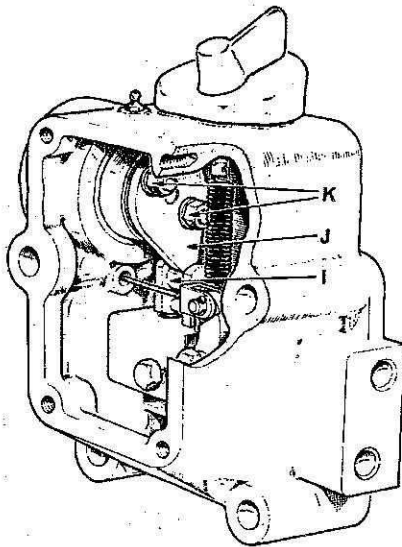

Fig. 187—Adjusting rocker shaft cam; refer to text for adjustment procedure and specifications.
With tractor and hydraulic system assembled, but with cover plate removed from right rockshaft support bracket, lift linkage by hand and engage locking latch to hold the linkage in raised position. Then, refer to Fig. 187 and check to see that push rod roller (I) is seated in cam indentation (J). If cam is not in this position, loosen nuts (K) and turn cam by inserting lever under end of rockshaft and holding push rod down against its spring until roller engages cam indentation, then retighten nuts and install cover plate.